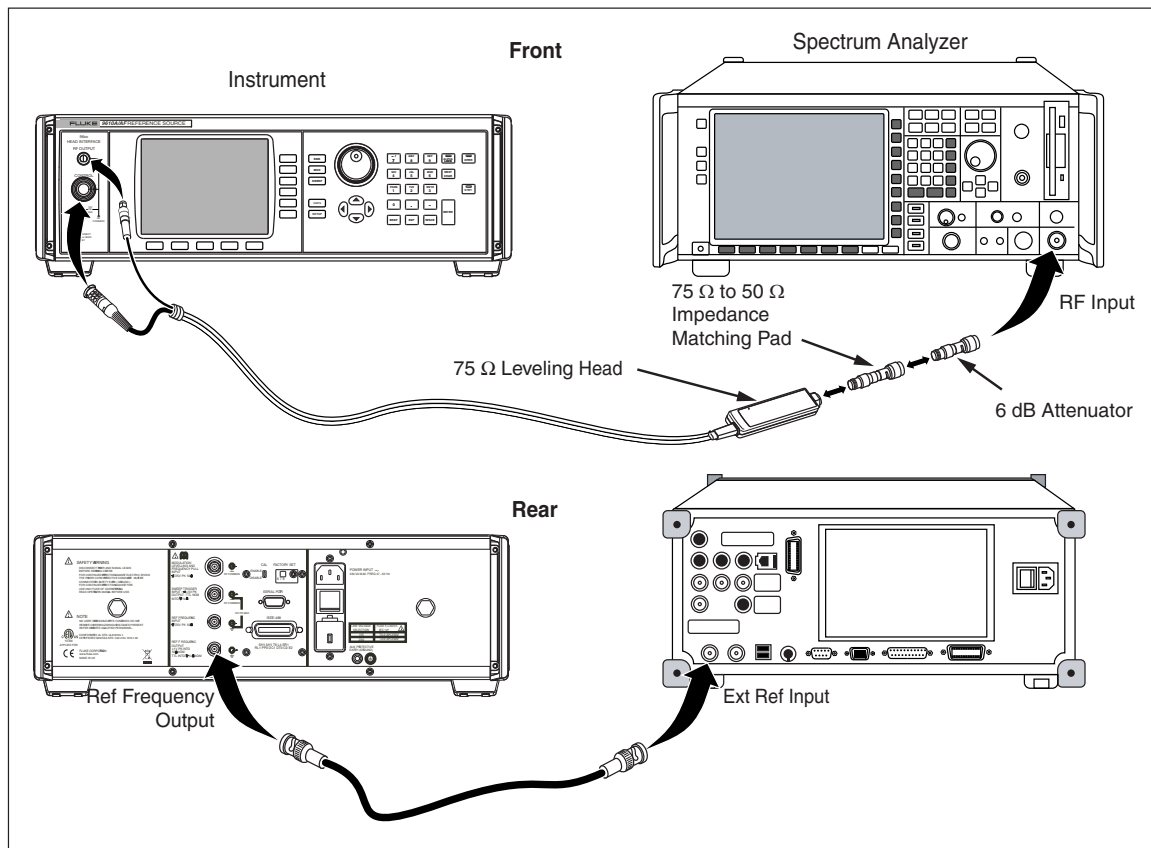

Figure 5-12. Equipment Connections - Attenuation Accuracy Test (75 Ω)
1. Connect the 75 Ω Leveling Head to the RF INPUT of the measuring receiver via a 75 Ω to 50 Ω impedance-matching pad and 6 dB attenuator. Connect the REF FREQUENCY OUTPUT (rear panel) from the UUT to the spectrum analyzer Ext Ref In (on rear). See Figure 5-12 for equipment connections.